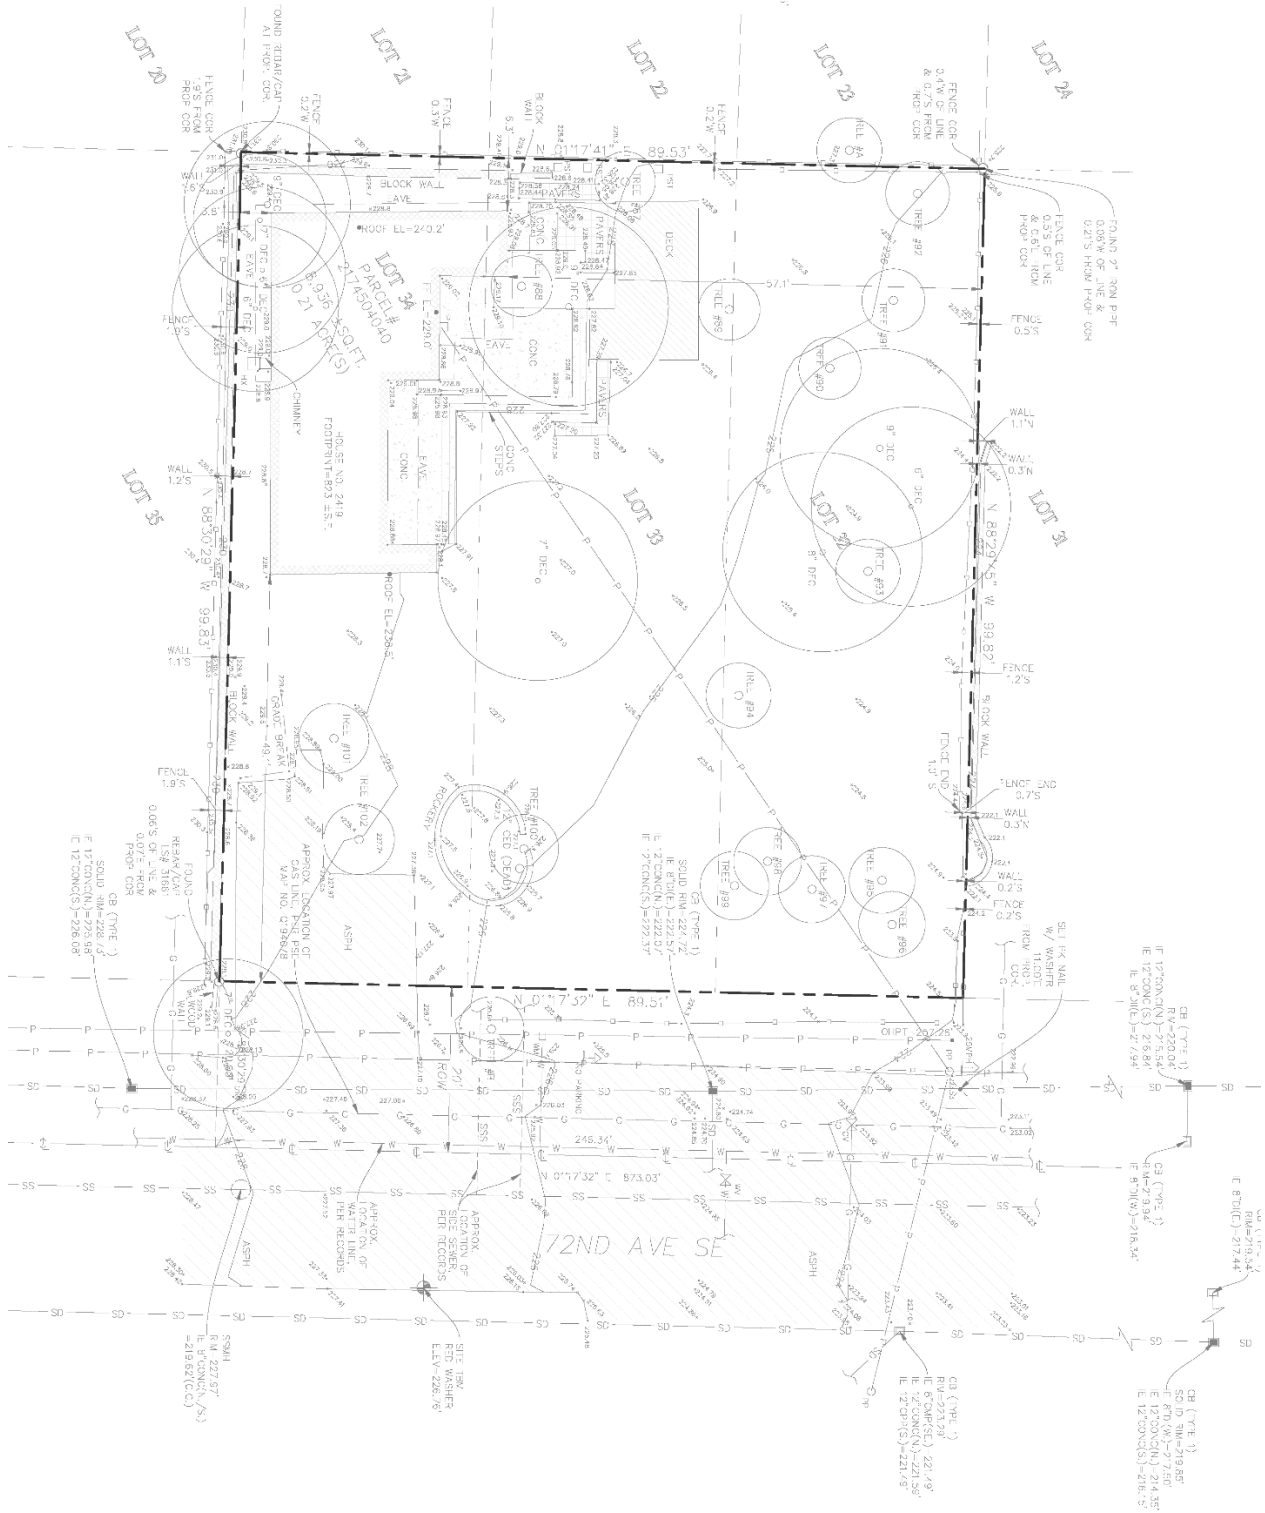
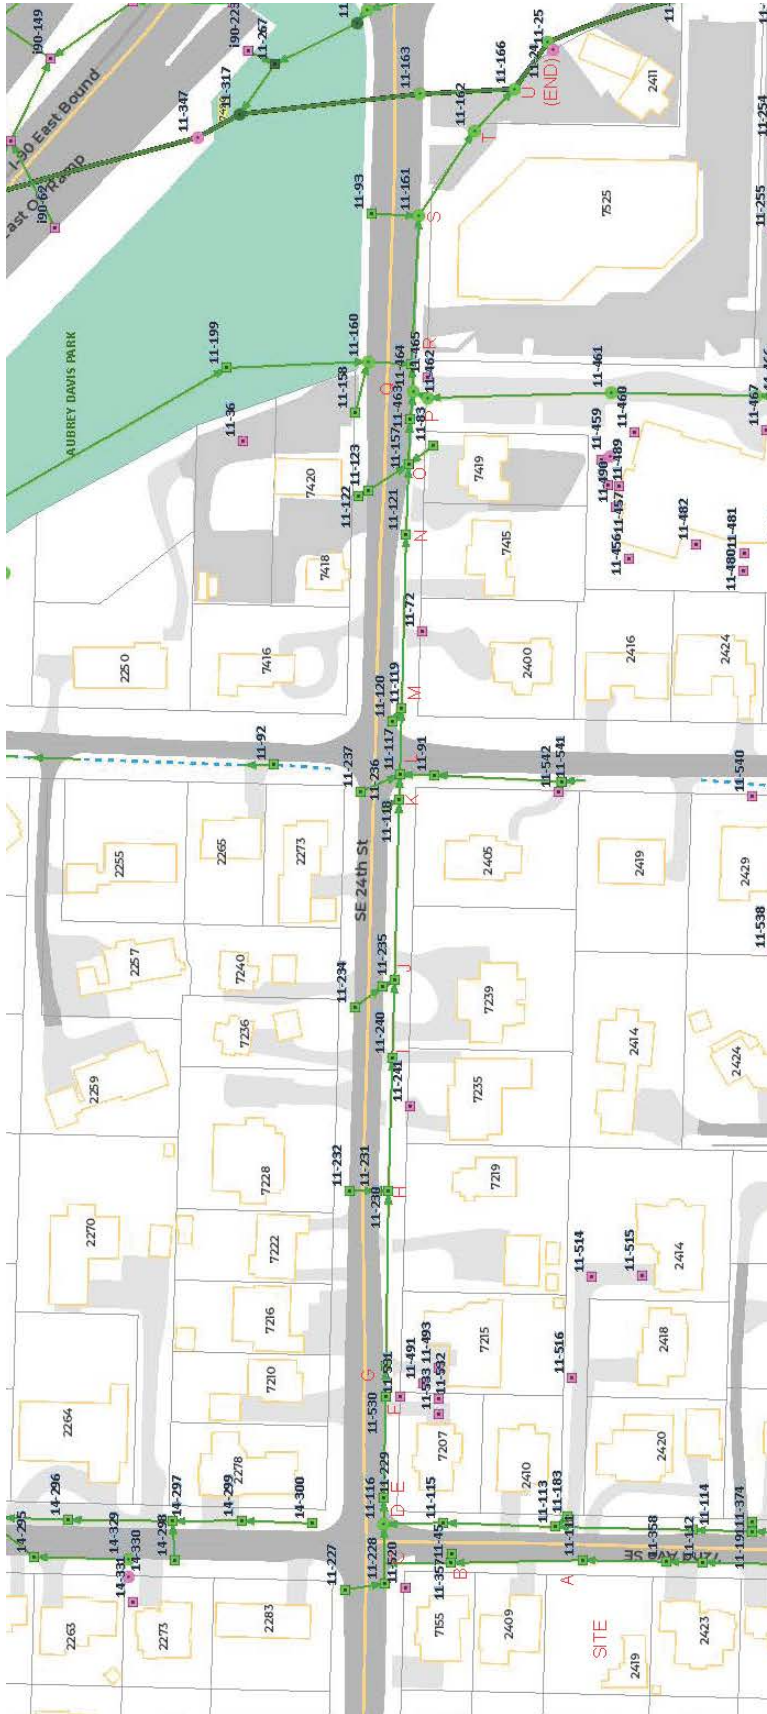

FIGURE 3: EXISTING SITE DEVELOPEMENT MAP (NTS)
FIGURE 5: DOWNSTREAM MAP (NTS)
Presently, the site has a single-family home with surface parking, open lawn and trees. The lot is surrounded by single family residences at all sides and access from paved 72nd Avenue SE to the east (See Figure 3 – Existing Site Development Map). A more detailed description of the existing drainage system is found in Section II, Off-site Analysis.
The proposed drainage outlet from the project site will be discharged to the existing storm system along the 72nd Avenue SE, east of the property street frontage. A reduced copy of the site conditions map is included as Figure 3, a site map showing the drainage of the lot. The end of downstream occurs near the intersection of SE 24th Street and 76th Avenue SE, as shown on Figure 5 - Downstream Map. The drainage system discharges to Lake Washington.
- Presently, site runoff discharges sheet flow at the east property line (**A**) to the street drainage system and flows northerly. Surface flow enters a Type 1 CB (**B**) with solid grade from an open grate catch basin next to it approximately 109 l.f. from the property (See Figure 5, Downstream Map). It continues in a 12" concrete pipe on the east edge of the street approximately 57 l.f. that connect to the SE 24th St drainage system at point (**C**) without a structure per GIS record. Then, it continues travels easterly approximately 33 l.f. to a CB (**D**) with vaned grate located near the southeast corner of the intersection, it then continues to another catch basin (**E**) with vaned grate located at the curb line approximately 22 l.f. From here, runoff travels approximately 85 l.f. in the same direction to a CB (**F**) with grate located at the driveway approach. Then, it continues approximately for another 22 l.f. to a solid grate CB (**G**) located at another driveway approach. At this point runoff continues through multiple catch basins (**H** to **L**) with solid grate located at the asphalt sidewalk approximately 502 l.f. to the southwest corner intersection of 74th Ave SE and SE 24th St. It then crosses 74th Ave SE approximately 56 l.f. to another solid grate catch basin (**M**) located at the sidewalk. From here, it continues at the similar fashion approximately 146 l.f. to another solid grate CB (point **N**). Then , it continues approximately 59 l.f. to another catch basin (**O**) with vaned grate located at the curb line. From here, it continues to another solid grate CB (**P**) approximately 38 l.f. It